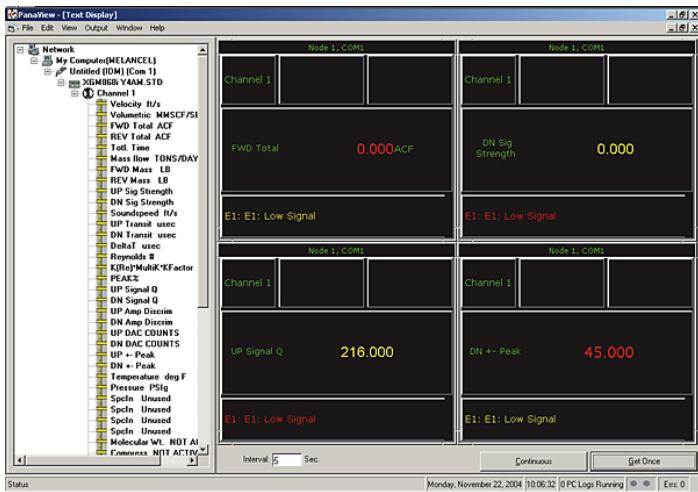

Figure 21: Multiple text screens in the text display window
2. Repeat Step 1 for any desired additional process parameters, by double clicking on them in the PanaView network tree. PanaView automatically tiles the multiple text screens in the right pane of the *Text Display* window, as shown in *Figure 21* below.